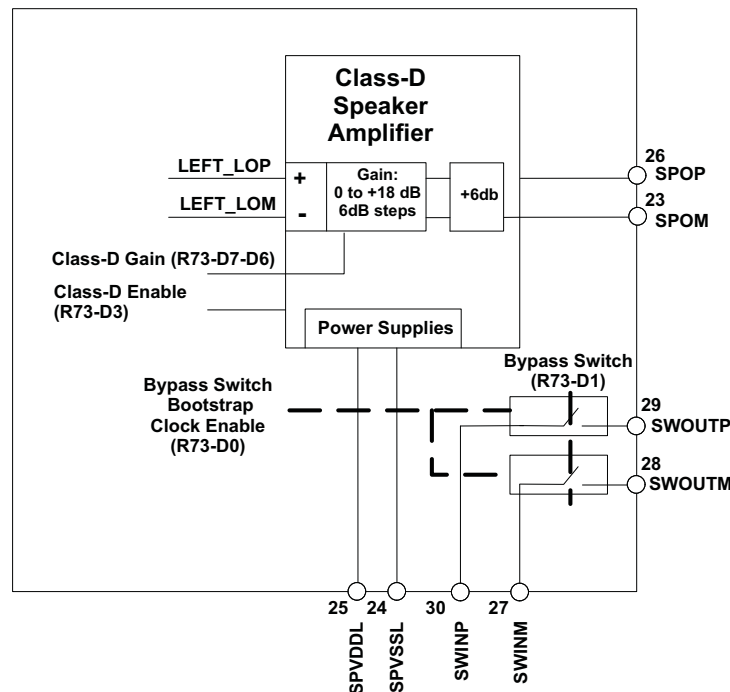
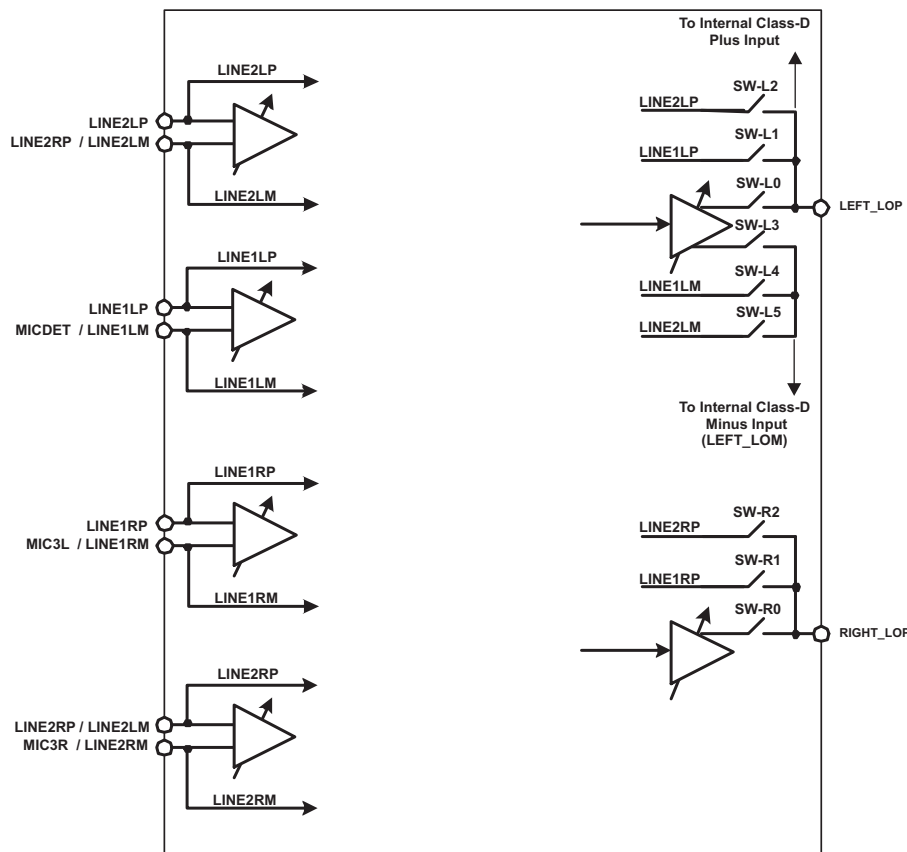

Figure 28. Differential Class-D Speaker Circuit
Figure 32. Passive Analog Bypass Mode Configuration
Differential Class-D speaker outputs are available on the SPOP and SPOM pins as shown in Figure 28. The integrated Class-D speaker amplifier can drive a one Watt audio signal into a differential 8- Ω load. The plus input to the Class-D amplifier is the same signal available at the left lineout LEFT_LOP pin. The minus input to the Class-D amplifier is an internal signal that is sourced as shown in Figure 32. A register (73) is used to enable the Class-D amp and set its gain control (0 dB to $+18$ dB). Following the gain control and before the outputs is a fixed $+6$ dB gain. Note that there are many other gains available in the signal path leading up to the Class-D amp so for best results the user must map the gains correctly.
Programming the TLV320AIC3107 to Passive Analog bypass occurs by configuring the output stage switches for pass through. This is done by opening switches SW-L0, SW-L3, SW-R0, and closing either SW-L1 or SW-L2 and SW-R1 or SW-R2. See Figure 32 Passive Analog Bypass Mode Configuration. Programming this mode is done by writing to Page 0, Register 108.
Connecting MIC1RP/LINE1RP input signal to the RIGHT_LOP pin is done by closing SW-R1 and opening SW-R0, this action is done by writing a “1” to Page 0, Register 108, Bit D4. Connecting LINE2RP/LINE2LM input signal to the RIGHT_LOP pin is done by closing SW-R2 and opening SW-R0, this action is done by writing a “1” to Page 0, Register 108, Bit D6. A diagram of the passive analog bypass mode configuration can be seen in Figure 32.